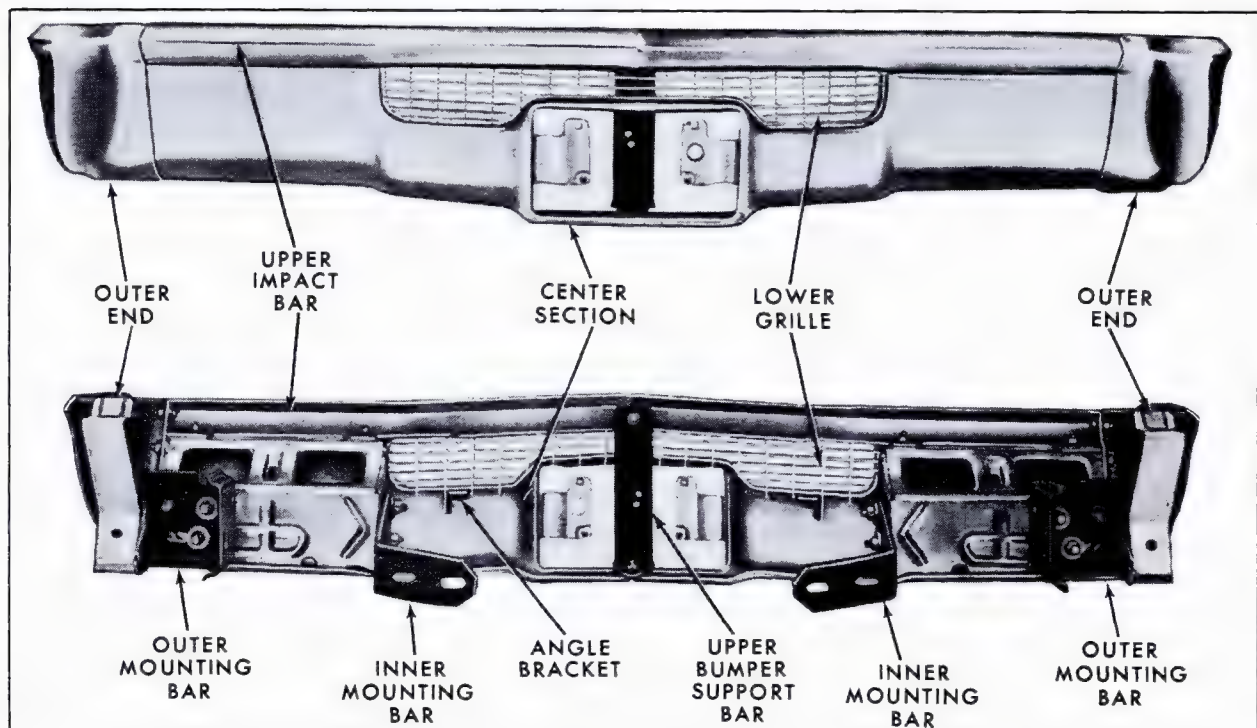

Fig. 14-5 Eldorado Front Bumper - Front & Rear View
The front bumper assembly for the Fleetwood Eldorado, Fig. 14-5, is of a four-piece design featuring a projecting lower center section, upper center impact bar, and projecting outer ends. A lower grille section is installed between the two center bars.
Removal and Installation****a. Removal (Fig. 14-5)**
**b. Installation (Fig. 14-5)**